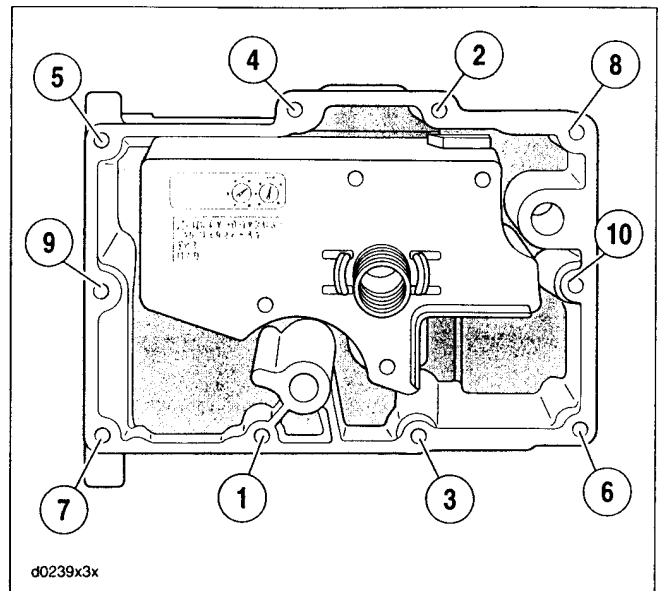

Figure 3-167. Oil Pan Torque Sequence
4. Position gasket and oil pan on transmission housing and install with ten screws (8). Tighten to **84-108 in-lbs** (9.5-12.2 Nm) following sequence shown in Figure 3-167.